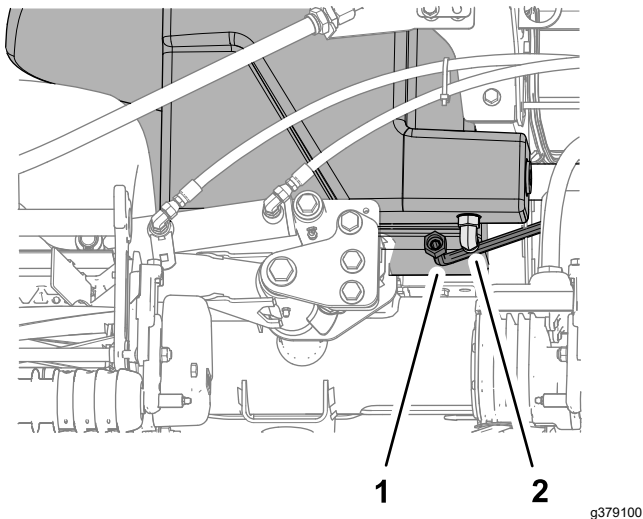

Figure 118
2. Place a large drain pan under the 90° fitting (Figure 118) of the hydraulic tank; refer to Hydraulic Fluid Capacity \(page 68\).